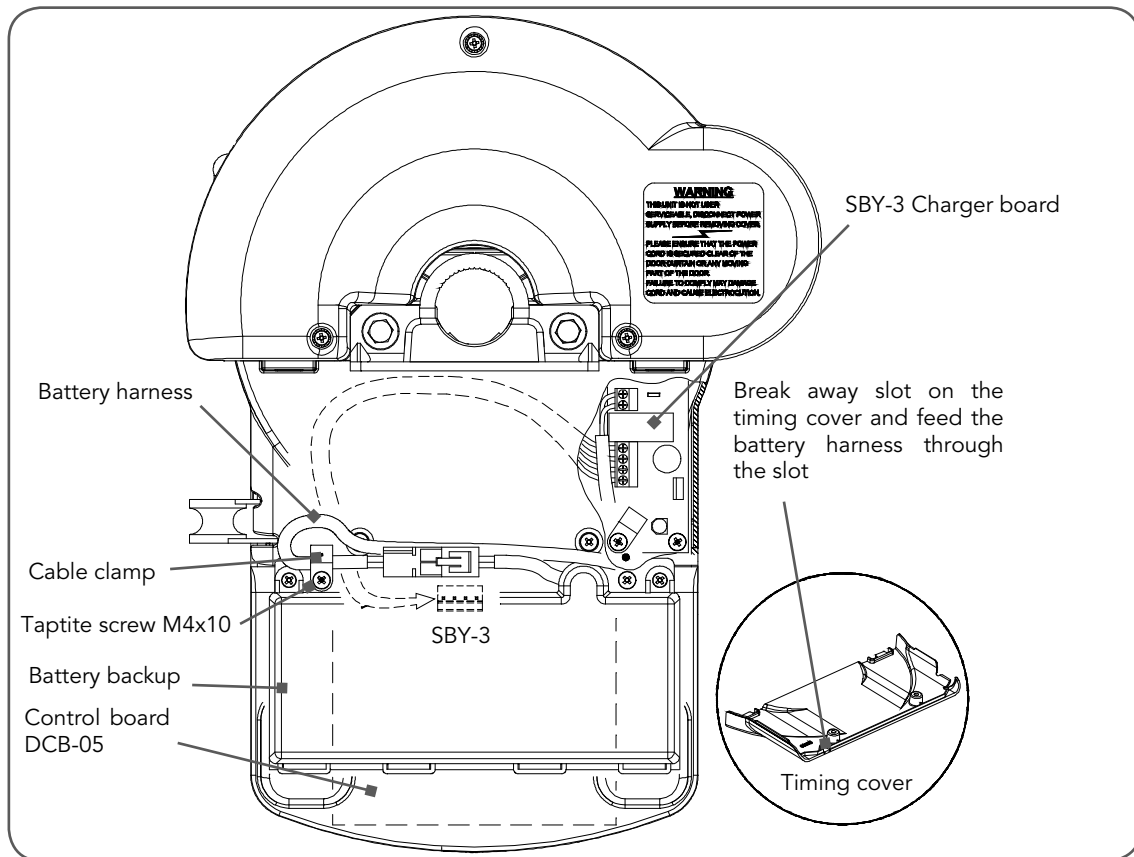

Fig 40
- Remove cable clamp and screw (**Fig. 40**). Retain cable clamp for later use.
- Mount the SBY-3 Charger Board on base and secure with four (4) Taptite 'P' M4 x 8 screws.
- Feed 4-Wire harness around timing assembly, through opening and plug into control board's SBY-3 connector (**Fig. 40**).
- Connect battery harness together (**Fig. 40**).